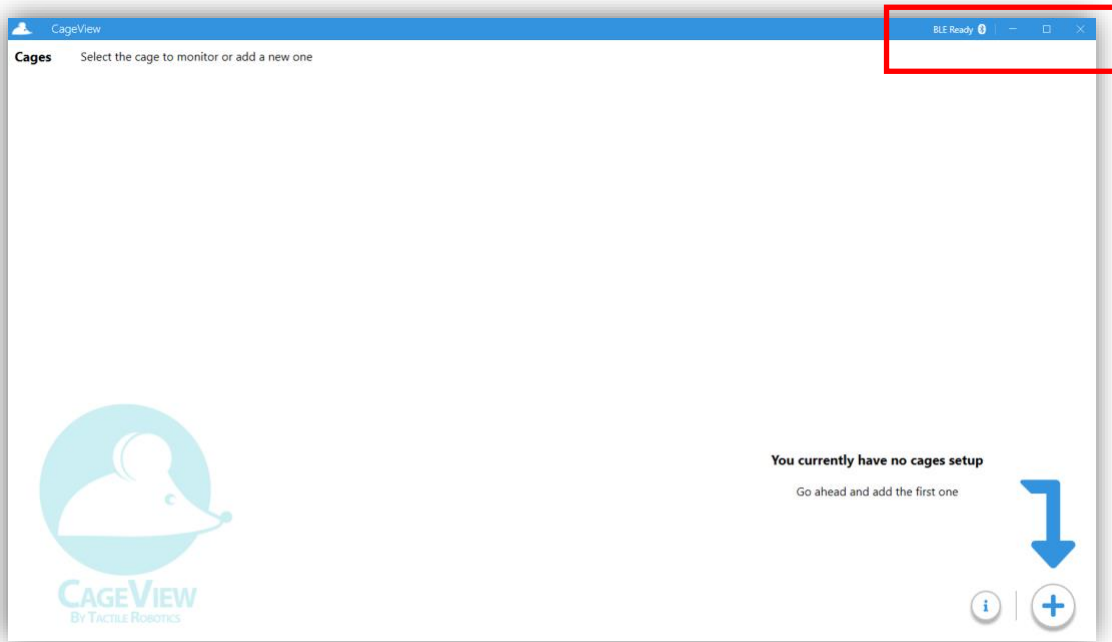

Figure 7. The first page of CageView software
5.1.1. Double-click on the software shortcut located on the Desktop or other location on the machine. The first page of the software is shown in **Figure 7**.